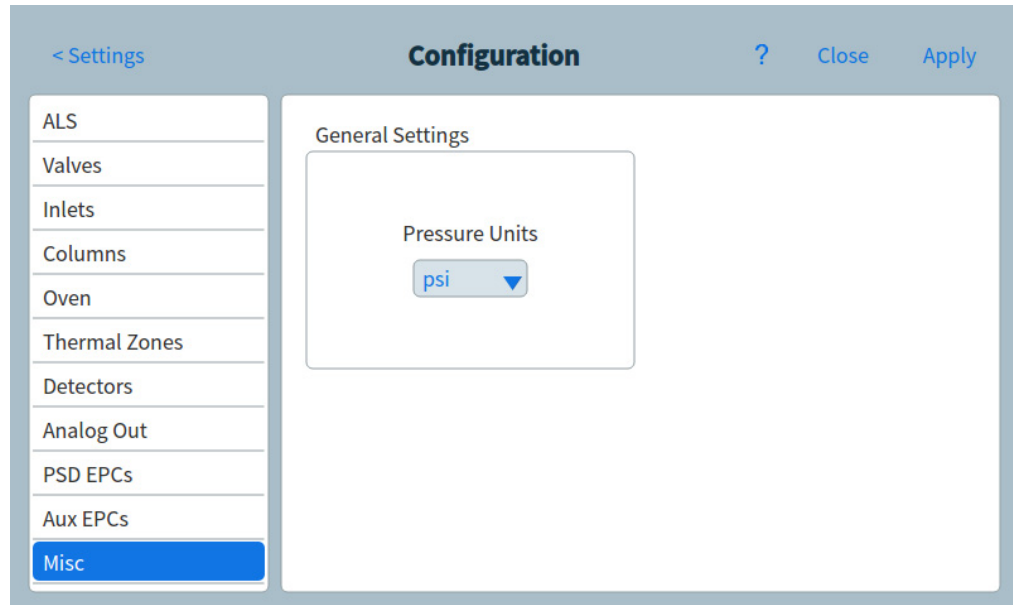

Figure 66. Miscellaneous settings page
- 1 Select **Settings** > **Configuration** > **Misc**. See **Figure 66**.